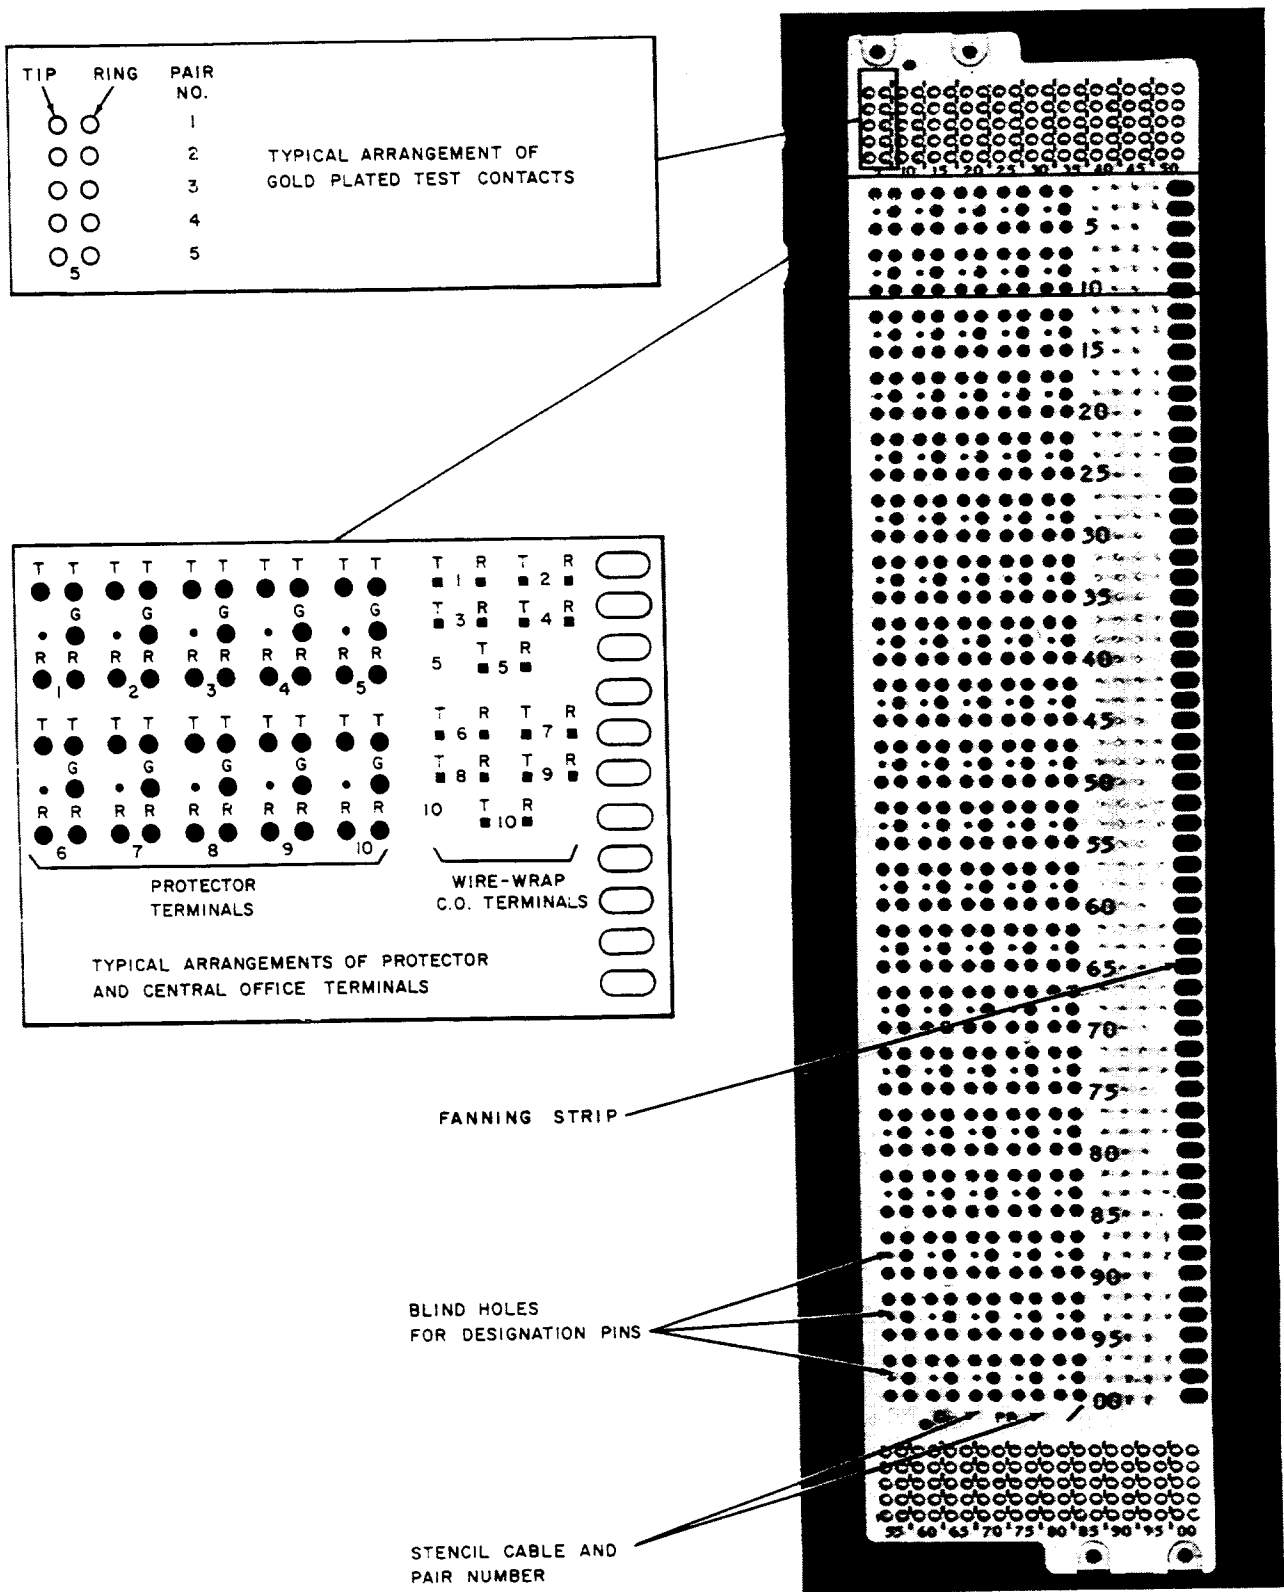

Figure 1—303-Type Connector Panel
2.01 The 303-type connector (Figure 1, 2, 3, and Table A) is a molded plastic panel 4-5/16 inches wide and 19-3/16 inches long. The connector has 100 of the 5-pin, socket-type terminals for 3-, 4-, or 5-type protector units. Four of the terminals (tips and rings) are gold plated. The fifth terminal (center) is solder plated and provides for a ground connection. A sixth hole (blind) is provided for inserting designation pins.